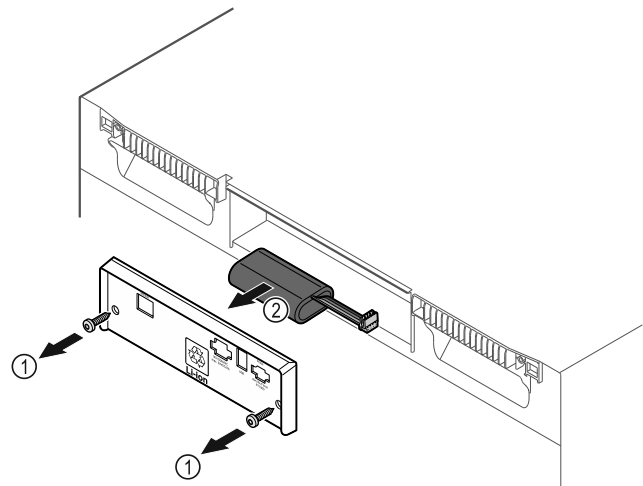

Fig. 229
- ▶ Unscrew screws and remove cover from the back of the appliance Fig. 229 (1).
- ▶ Disconnect and remove battery Fig. 229 (2).